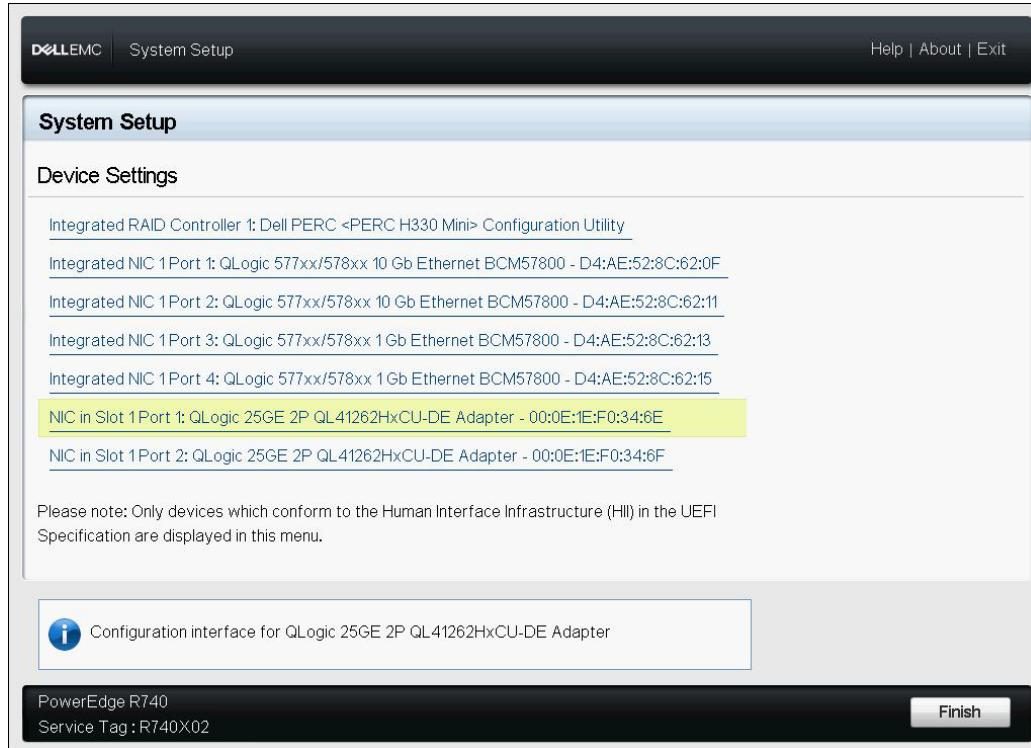

Figure 10-2. System Setup: Device Settings, Port Selection
3. On the Device Settings page, select the QLogic device (Figure 10-2).